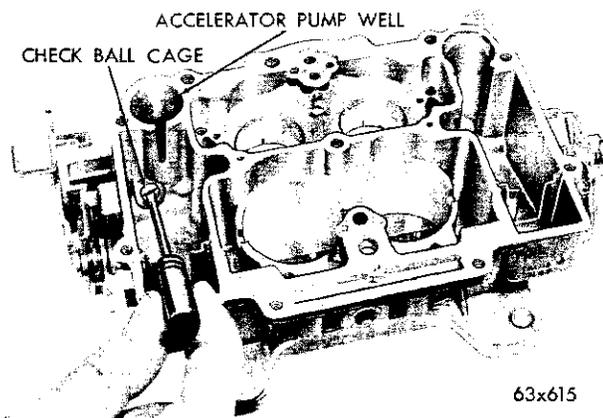

Fig. 68—Removing or Installing the Pump Inlet Check Ball Cage
(6) Using Tool T109-58, remove the accelerator pump inlet check ball and cage, as shown in Figure 68.
(7) Remove the idle mixture adjusting screws and springs from the throttle body casting.
(9) Install the primary and secondary main metering jets in the main body. Tighten securely, using Tool T109-58. (Refer to Fig. 68.) Tighten securely.